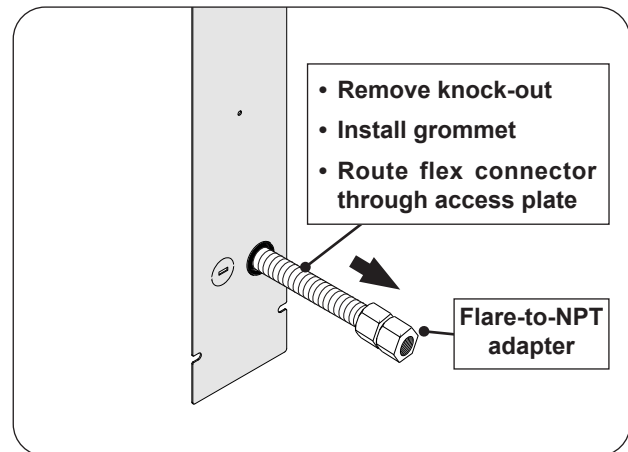

Fig. 16-1 Route flex connector (rear of post)
2. Remove the plastic grommet (attached to the flex connector) and insert it into the newly created opening. Then route the flex connector through the opening. See Fig. 16-1.